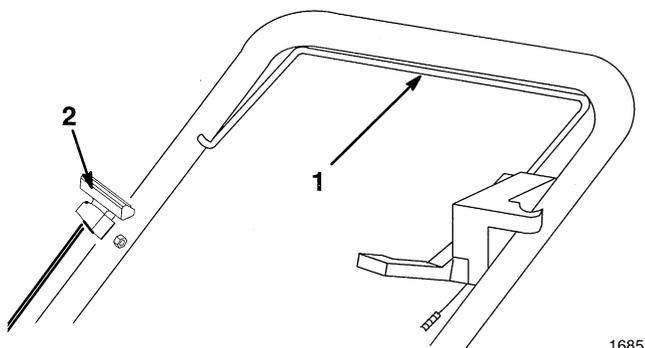

Figure 7
- Squeeze control bar against handle (Fig. 7).
- Pull starter handle (Fig. 7) lightly until resistance is felt, then pull sharply. Let rope return to handle slowly.